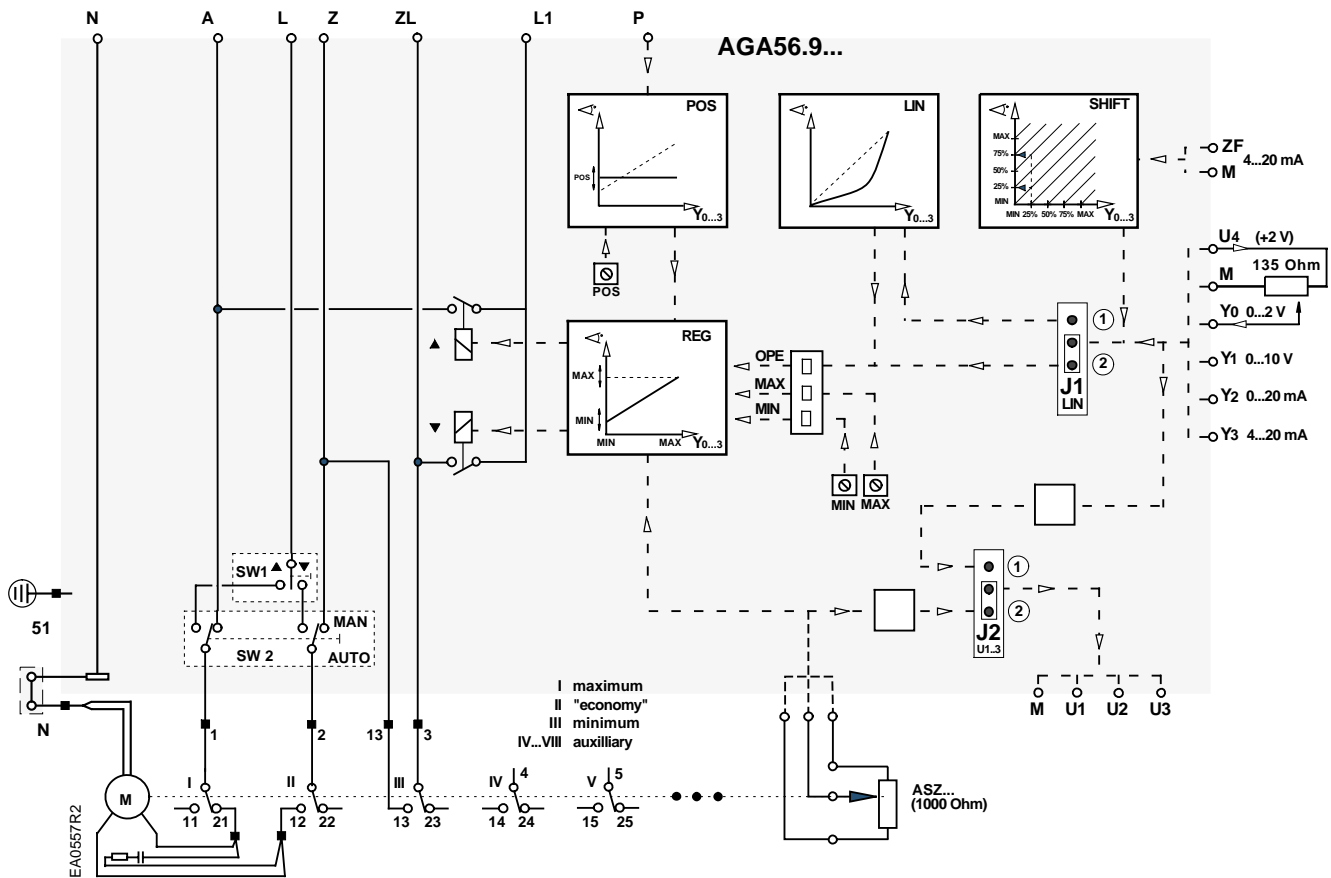

Figure 11. Basic Functional Diagram of AGA56.9...
- See *Figures 11 and 12*. 2. Connect neutral to terminal N.